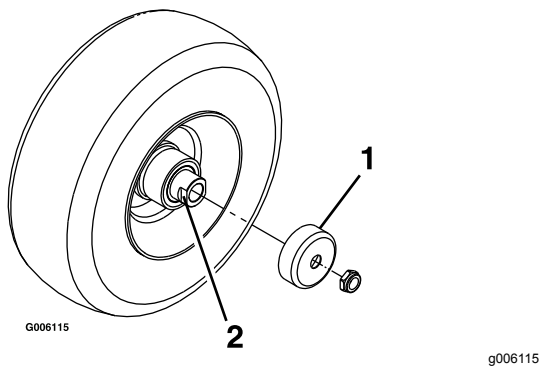

Figure 34
3. Remove the seal guards from the wheel hub (Figure 34).